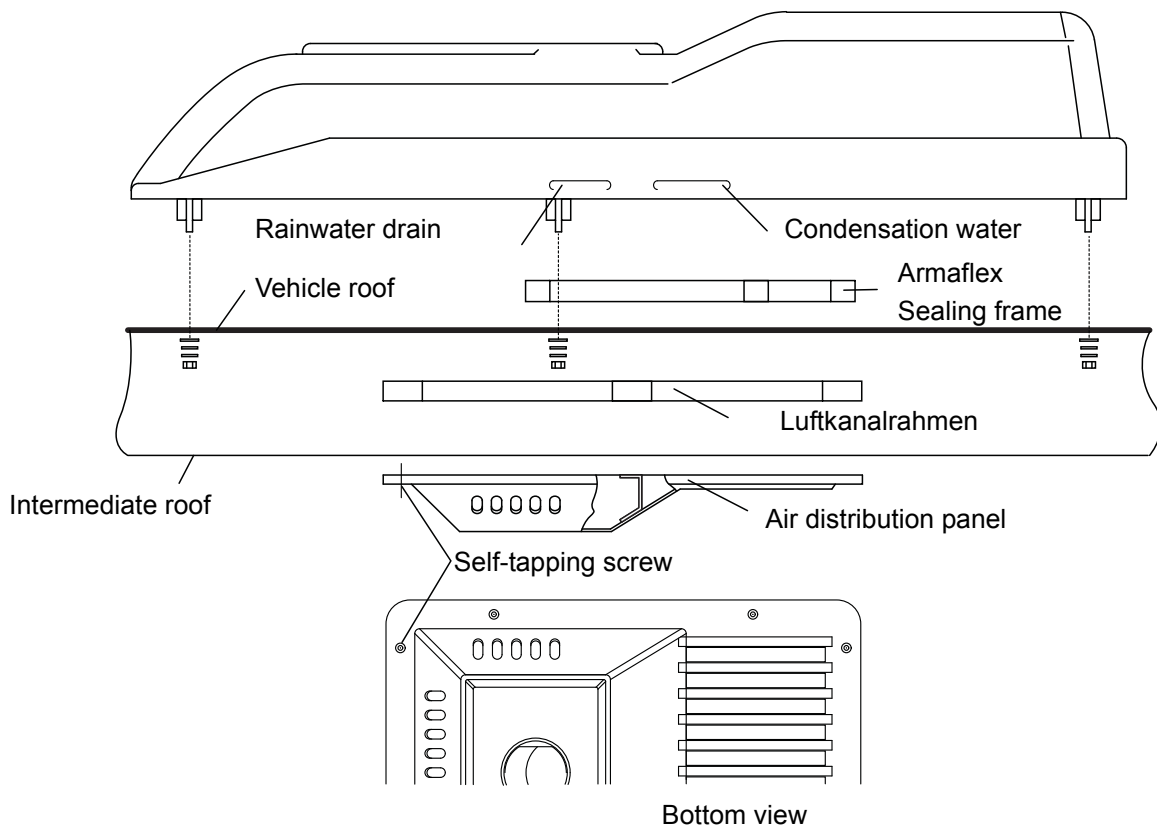

Fig. 4.3
- Prepare inner roof so that the air-distribution panel can be installed under the roof (see Fig. 4.3).
- Affix the sealing profile to the roof with the Sikaflex 221 included in the installation kit as shown in Fig. 4.3.
- a) Place the baseplate on the roof (sealing frame) and align it. Place silent blocks under the eight fastening points and insert the nine M8 bolts (with washers) into the holes (Fig. 4.3).
- d) Position the air distribution panel as shown in Fig. 4.3 and secure it with ten self-tapping screws to the intermediate roof or to suitable self-made brackets if necessary. If the optional recirculating-air filter has also been ordered, it must be inserted in the intake area of the air distribution panel.